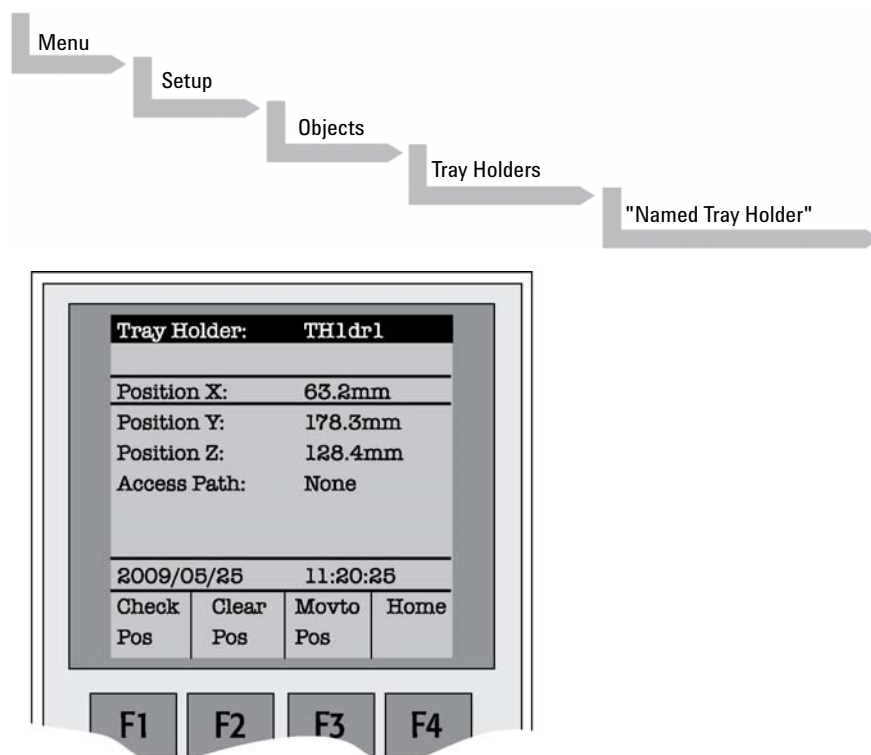

Figure 36 Menu Screen Object Trayholder
- 4 After selecting "**Named Tray Holder**" the X- Y- Z-positions for the object will be displayed (see Figure 36 on page 89).